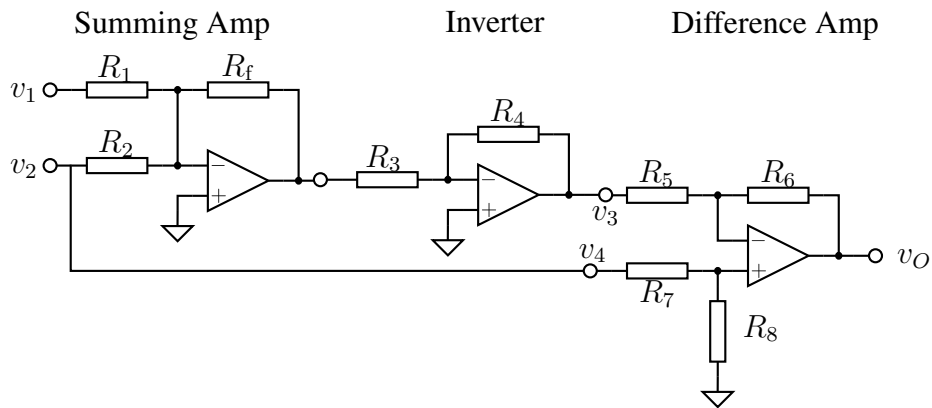

Figure 1.15: Summing and difference amplifier circuit.
- Configure one of the free op-amps on the LM324 chip as an inverting amplifier with unity gain and connect the output of the summing amplifier to the input of the inverter, as shown in Fig. 1.15. Confirm that the circuit is behaving as expected by examining the inverter's input and output waveforms on the oscilloscope.
- Finally, build a difference amplifier on your breadboard, again configured with unity gain ($R_5 = R_6 = R_7 = R_8$). Connect the output of the inverter to the v_3 input of the difference amplifier, and connect the v_4 input to the same square wave 'noise' signal that is connected to the summing amplifier's v_2 input, as shown in Fig. 1.15.